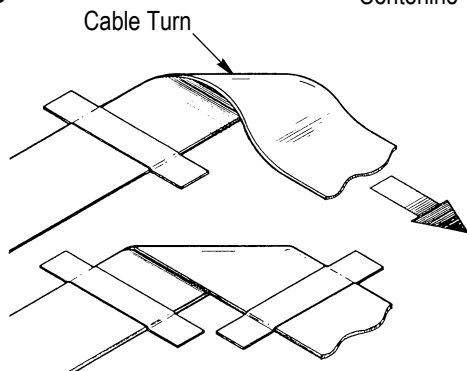

Figure 4
- a. Tape the edges of the cable to the floor approximately every 1.83 to 3.66 m [6 to 12 ft]. See Figure 4, Detail A.
- b. Fold the cable to make directional changes (turns). See Figure 4, Detail B.
- Removed Figures 4, 7, 8, 9, 10, and 11